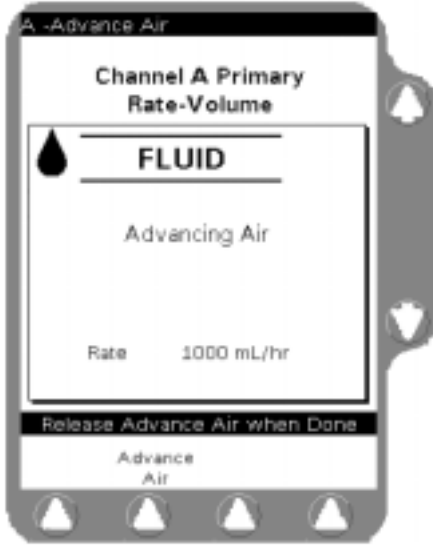

Figure 6-3 Fluid Detected
1. Press the **Advance Air** soft key and release it when the bubble can be seen or fluid is detected (Figure 6-3).